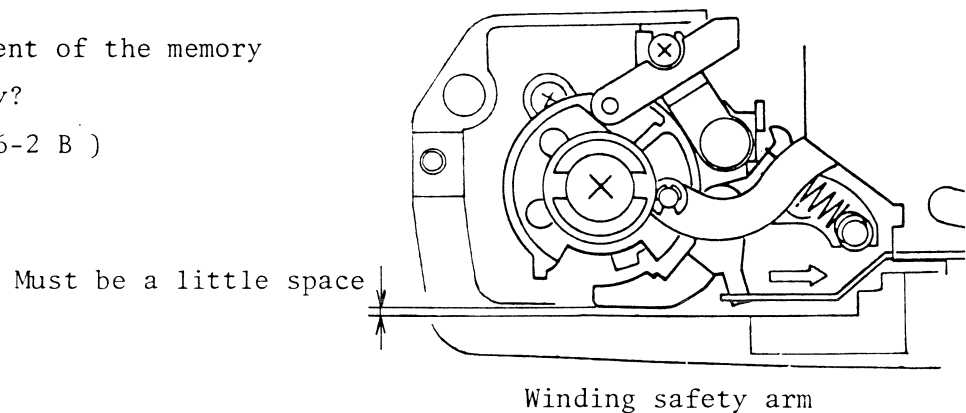

Fig.30
2. With the shutter released, there must be a little space between the winding safety arm and body wall. (Fig. 30)